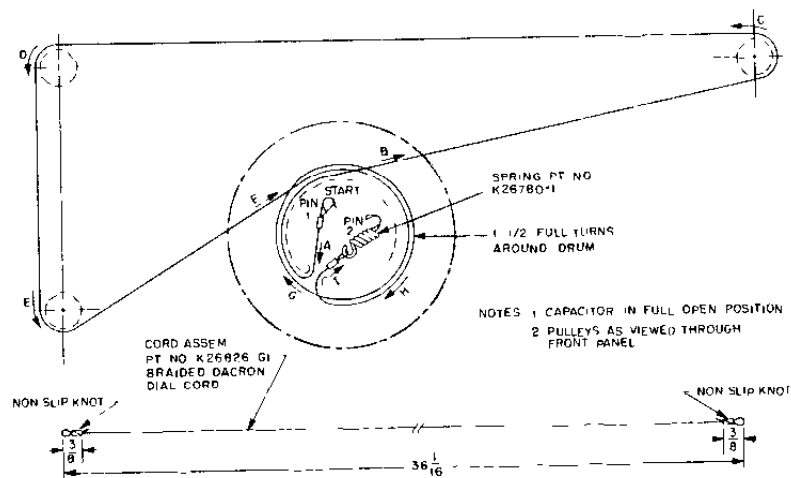

Figure 10. Restraining the Dial Pointer Mechanism
5. Place the loop end of the dial pointer cable over pin 1 on the dial drive drum. Following the lettered sequence shown in figure 10, string the dial pointer cord and anchor the spring over pin 2 on the dial drive drum.